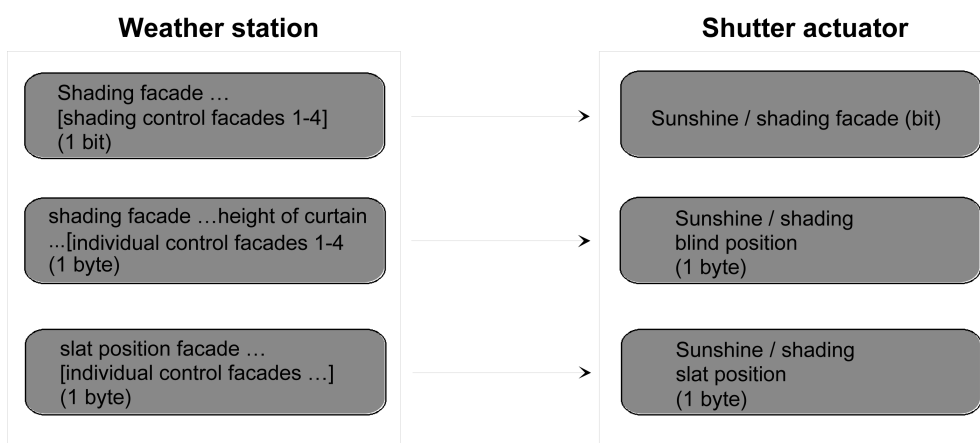

Figure 25: Programming of the communication objects for application example IV
- reaction at the beginning of sunshine / shading = variable blind position, variable slat position.(figure 25)